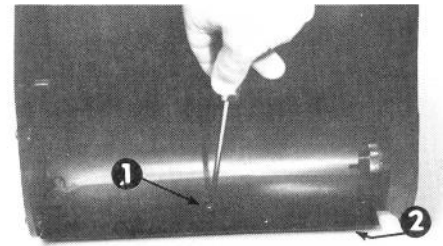

Figure 16
1. Remove the rotor; refer to Replacing Rotor, page 8 items 1 through 3.
2. Remove the three screws and locknuts used to hold the scraper blade in place. Remove scraper blade (Fig. 16).